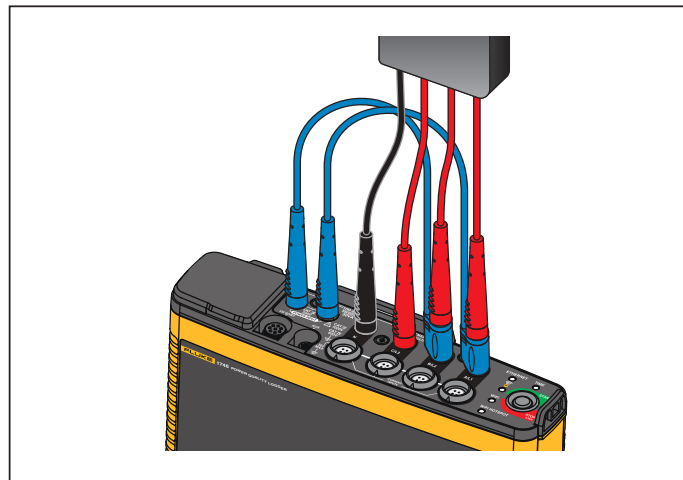

Figure 8. Measurement without Neutral Voltage and Instrument Power Supply
- Connect B/L2 with the second input of the power supply. See Figure 8.